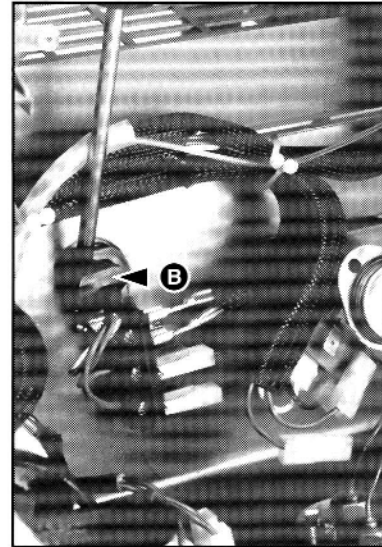

fig. 3.11
- 5 - Loosen screw "B" to slacken the cable holder (see fig.3.11);